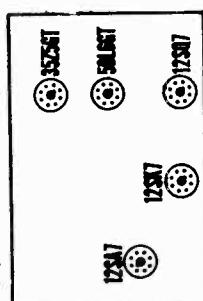

FIG. 2
1. Set drum to position shown in Figure 2 with slugs in full out position (shown in FIG. 1).
3. Pass the cord through the opening at the bottom of the drum around the rear of the left side over the top and make two and one half turns around the rubber bushing on the tuning shaft as shown in FIG. 2.
6. Form a loop in the cord and adjust for normal tension on the spring. (See FIG. 2).